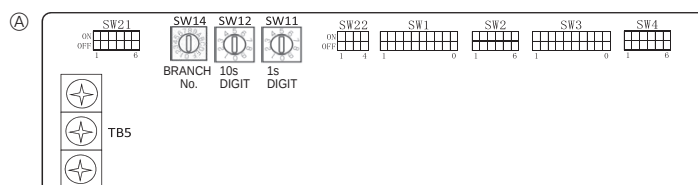

Fig. 5-9
5.5. Setting addresses (Fig. 5-9)
- ① How to set addresses
- ② How to set branch numbers SW14 (Series R2 only)
- (A) Address board
5.6. Switch setting for high ceiling or at the time of changing the number of air outlets (Fig. 5-9)
5.7. Sensing room temperature with the built-in sensor in a remote controller (Fig. 5-9)